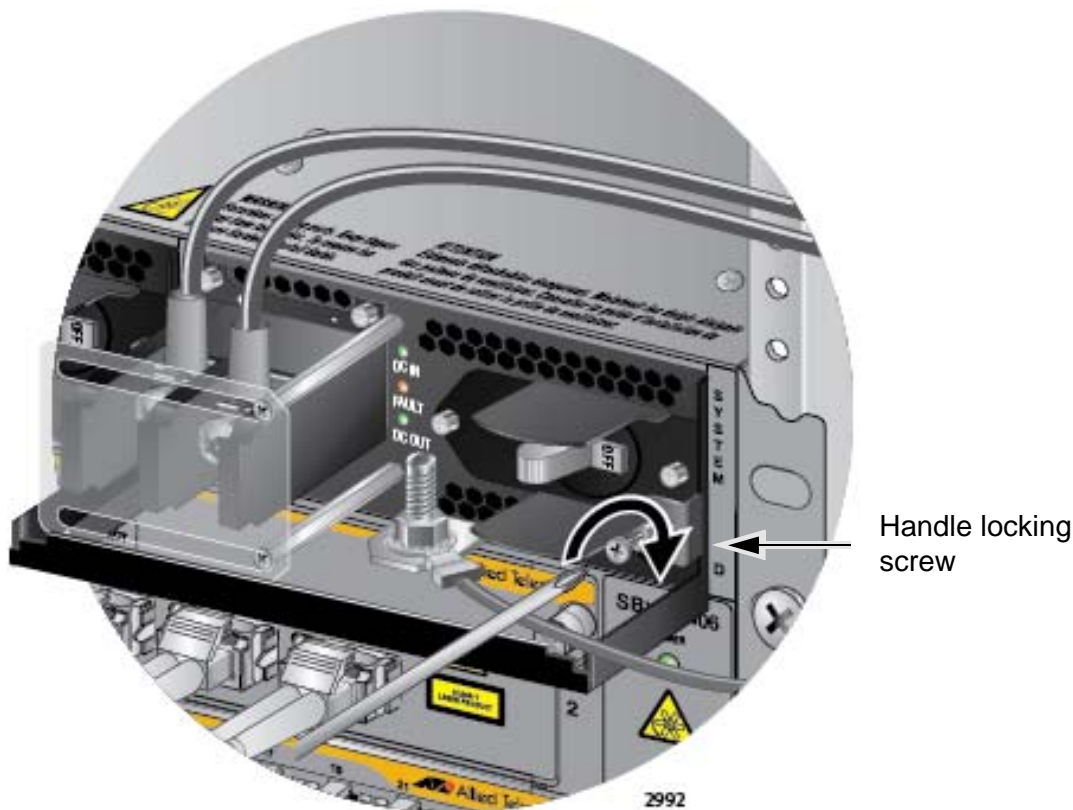

Figure 139. Tightening the Handle Locking Screw
9. With a #2 Phillips-head screwdriver, tighten the handle locking screw to secure the power supply to the chassis. See Figure 139 on page 212.
7. With a #2 Phillips-head screwdriver, tighten the handle locking screw to secure the power supply to the chassis. See Figure 139 on page 212.